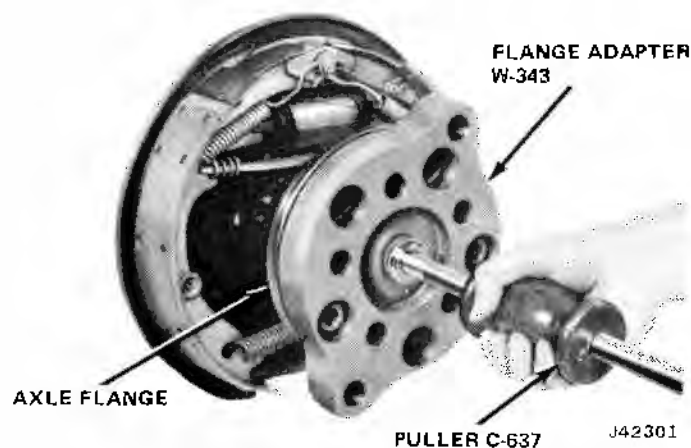

Fig. 10-14 Removing Flanged Axle Shaft
(1) Jack up vehicle and remove wheels.
(2) Remove brake drum spring locknuts and remove drum.
(3) Remove axle shaft flange cup plug by piercing center with a sharp tool and prying out.
(4) Using access hole in axle shaft flange, remove nuts attaching backing plate and retainer to axle tube flange.
(5) Attach Axle Shaft Adapter Tool W-343 and Slide Hammer Handle C-637 to axle shaft flange and remove axle shaft (fig. 10-14).